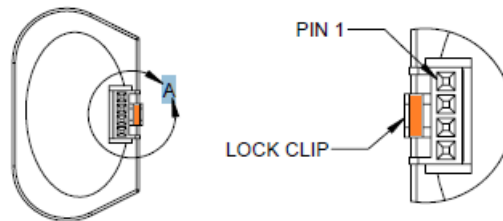

Figure B-3. Connect Battery Cable
1. Holding the cable in one hand, insert the cable for the battery and line up with the mating connector at one end of the battery compartment, as shown in Figure B-3.